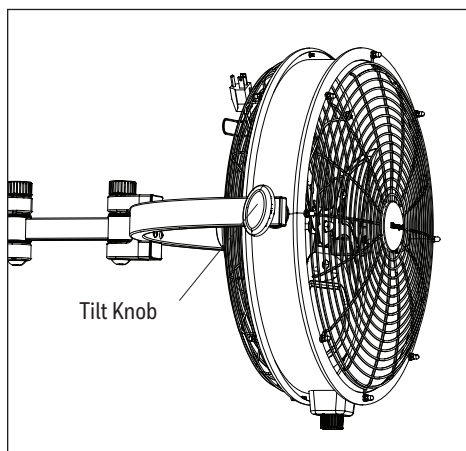

Figure 2.4
4. Use tilt knobs on sides of fan to adjust airflow up or down. Loosen tilt knobs by turning counterclockwise, adjust fan, and retighten tilt knobs (Figure 2.4).